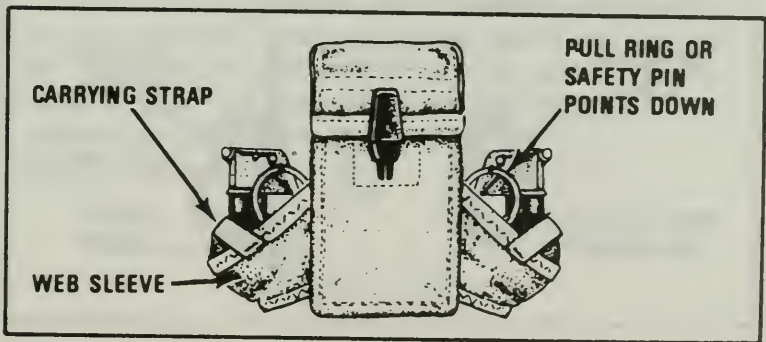

Figure 182. Grenade attached to a new style ammunition pouch.
(1) If the pin is partially removed, carefully push it into place while securing the lever down.
(2) If the pin is bent, carefully bend it back into position.
3. Attach grenades to ammunition pouches (Figure 182).